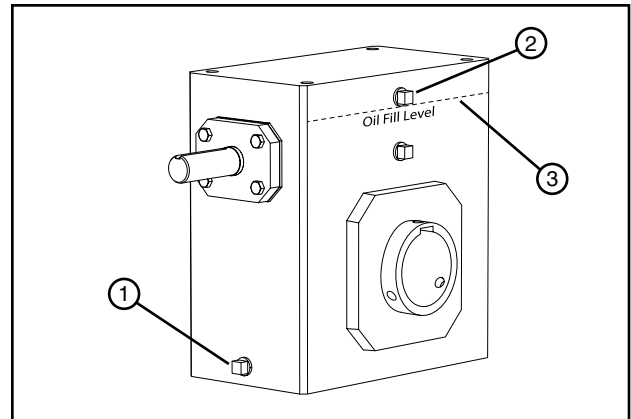

Figure 31-2 1. Drain Plug
4. Remove fill plug from gearbox. See Figure 31-2.
5. Fill gearbox with Valley Red Gear Lube to the fill line shown in Figure 31-2. Allow time while refilling the gearbox for the oil to equalize in the gearbox. DO NOT over fill.